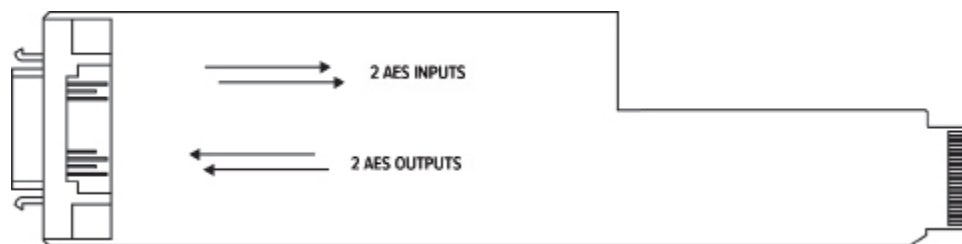

Figure 9. Sample AES Audio Transceiver Card Signal Flow (2 AES Audio Inputs, 2 AES Audio Outputs).
- A sample of the AES Audio Transceiver Card signal flow is shown in see Figure 9.
2. AES Audio Only, see Figure 9,